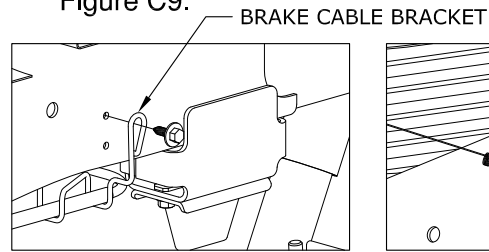

FIGURE C1: View from outside of Driver Side Frame.
1. **Prepare to install sideplates.** Before installing the sideplates it is necessary to temporarily remove a brake cable bracket on the driver side of the frame, See figure C1. The M8 bolt will be needed to re-attach the bracket in a later step.